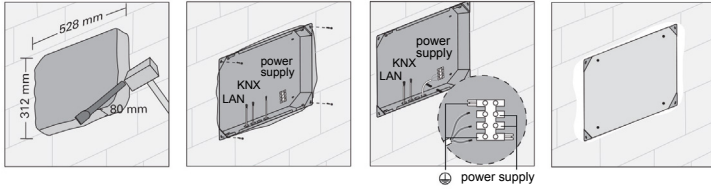
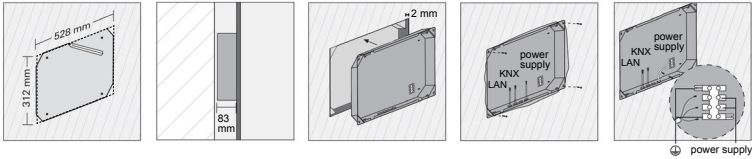

Figure 1: Installation in Brickwork
Figure 2: Installation in Cavity Wall
- Depending on the substrate, create a recess in the wall with the dimensions shown in figure 1 (Brickwork) or figure 2 (Cavity wall). You can use the stencil board delivered in the PEAKnx flush-mounted box to draw the dimensions of the recess on the wall. Leave the slants in the corners of the flush-mount box (Brickwork) or install special mounting corners (Cavity wall). The flush mounted box must be later flush with the wall.